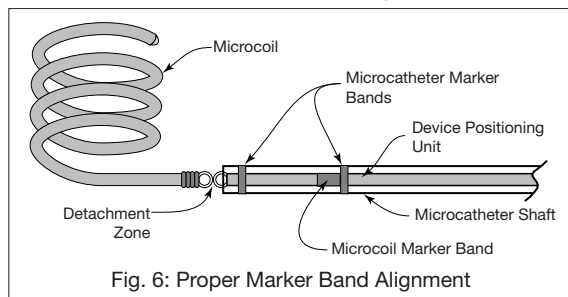

Fig. 6: Proper Marker Band Alignment
1. The proper alignment of the marker bands is illustrated in Figure 6. The infusion microcatheter has two distal tip marker bands located three (3) cm apart. The Microcoil System has a distal marker band three (3) cm from the detachment mechanism. To obtain proper positioning of the
1. Re-verify the position of the microcoil within the aneurysm and the detachment zone position per Figure 6 via fluoroscopy. The Microcoil System is now ready for detachment.
6. After the light goes out and the tone stops, detachment of the microcoil from the DPU wire must be fluoroscopically verified by gently withdrawing the DPU wire back approximately one (1) mm. Observe if the microcoil has detached.